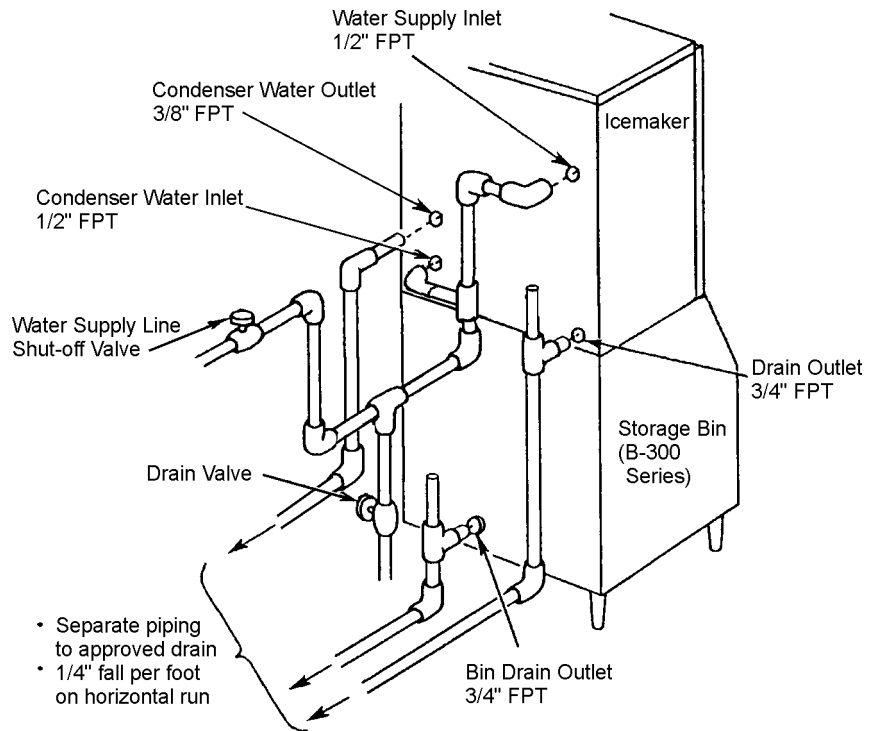

Fig. 9
7. WATER SUPPLY AND DRAIN CONNECTIONS - See Fig. 9